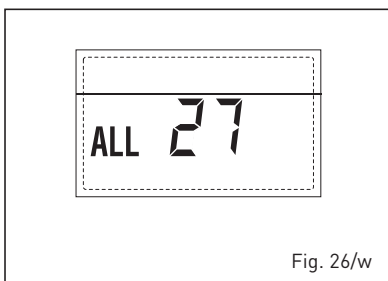

Fig. 26/w
– **ANOMALIA COERENZA INGRESSO (S3) SOLO PER IMPIANTO 7 "ALL 28" (fig. 26/y)**